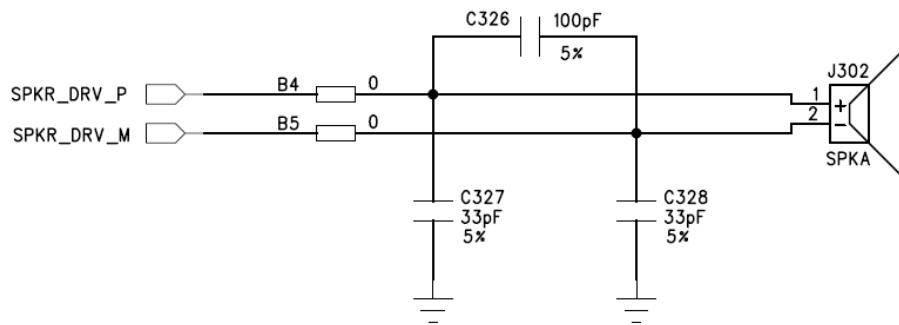

图 4.24: 用内部音频功放推荐电路
1. The earphone holder in Figure 4.24 is normally closed. If the user is using the normally open mode earphone holder, please modify the detection circuit according to the actual pin and modify the software accordingly.